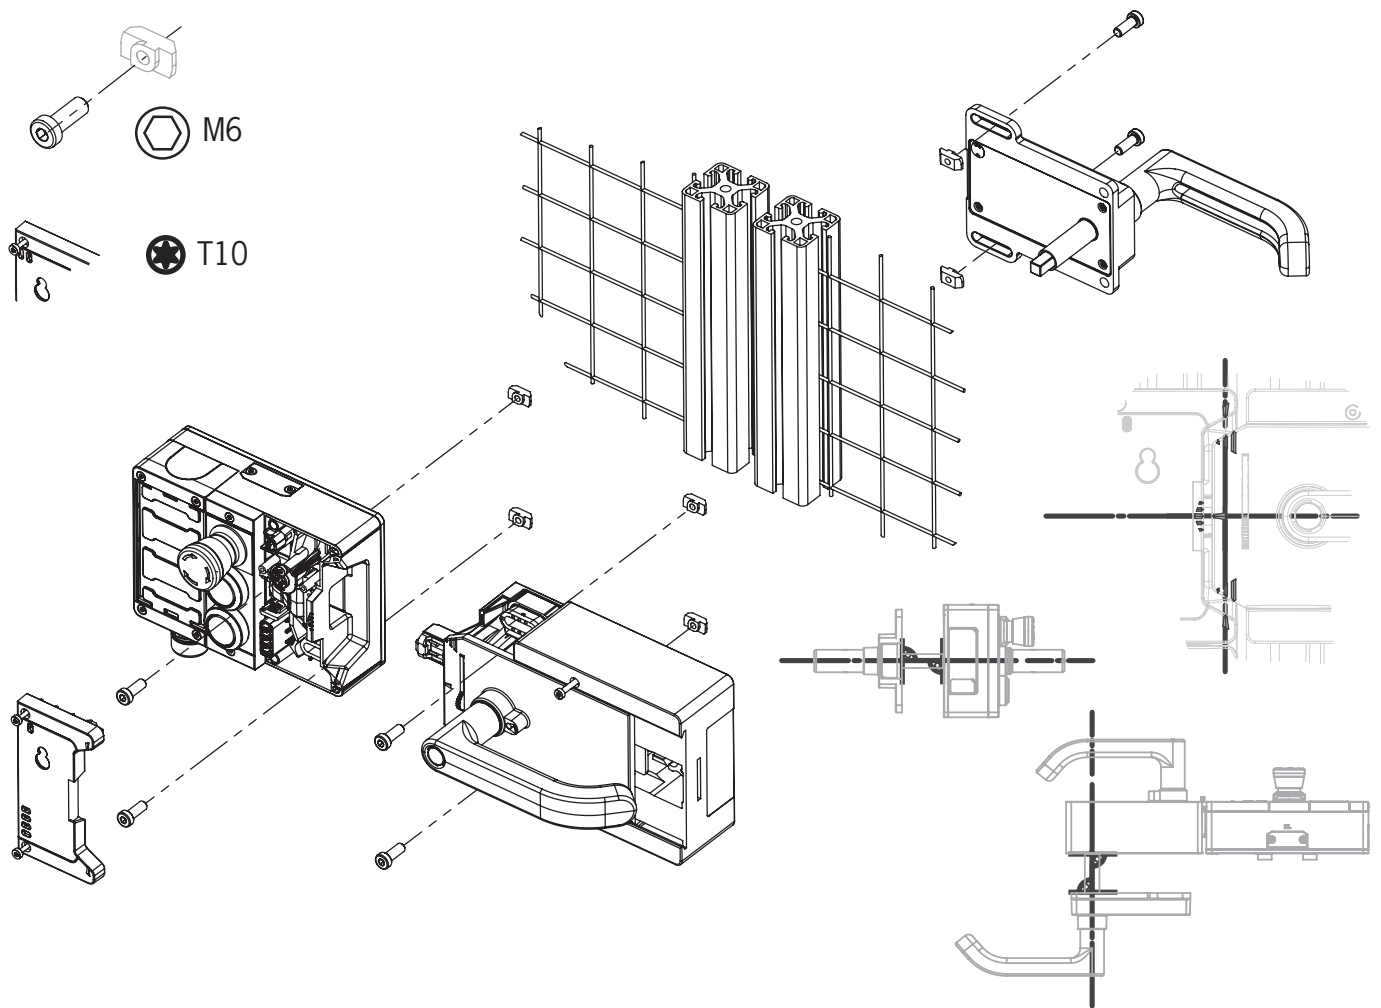
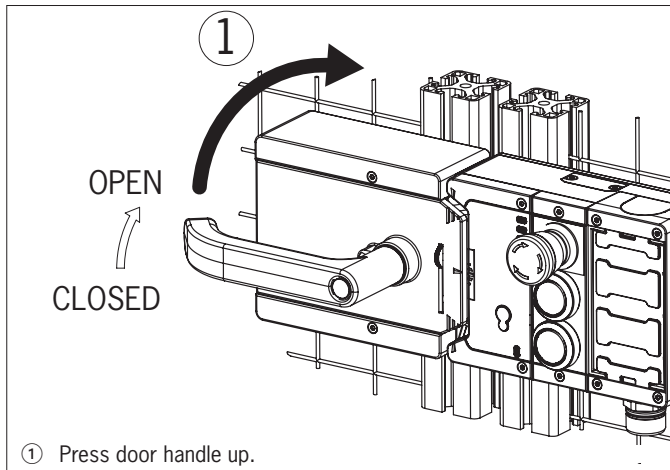
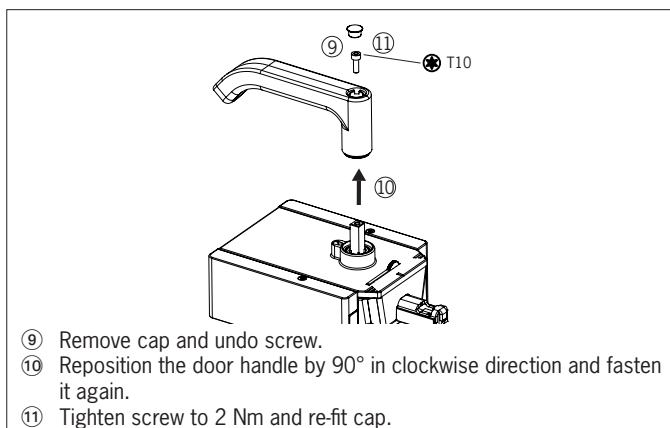

Figure 9: Installation example for door hinged on the right (general view)
Figure 12: Changing actuating direction, step ①
Figure 17: Changing actuating direction, steps ⑨ and ⑪
- › Align escape release axis at right angles to the handle module. See *Figure 9*.
For mounting steps, see *Figure 9* and *Figure 12* to *Figure 17*.
- › The system is mounted the other way up for doors hinged on the left. In other words, the guard opens by pressing up the door handle (see *Figure 12*). For this reason the actuating direction of the door handle must be changed (see *Figure 12* to *Figure 17*).